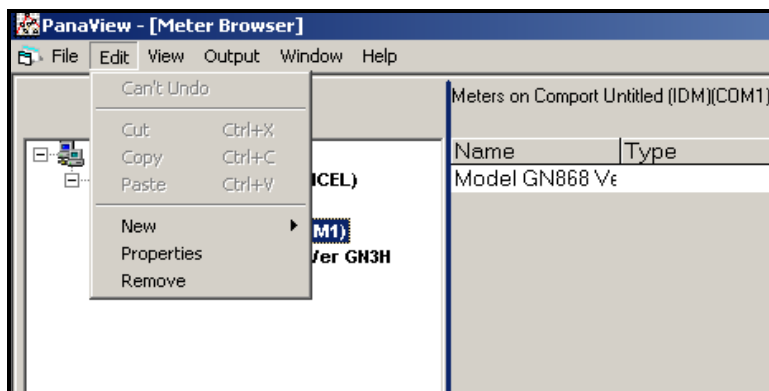

Figure 46: The Edit Menu
3. With the desired communication port highlighted, open the edit menu as shown in Figure 46.
1. From the “*Edit*” menu shown in Figure 46 on page 60, click on the “*Properties*” option. The dialog box shown in Figure 47 appears.
1. From the “*Edit*” menu shown in Figure 46 on page 60, click on the “*Remove*” option. The dialog box shown in Figure 48 appears.